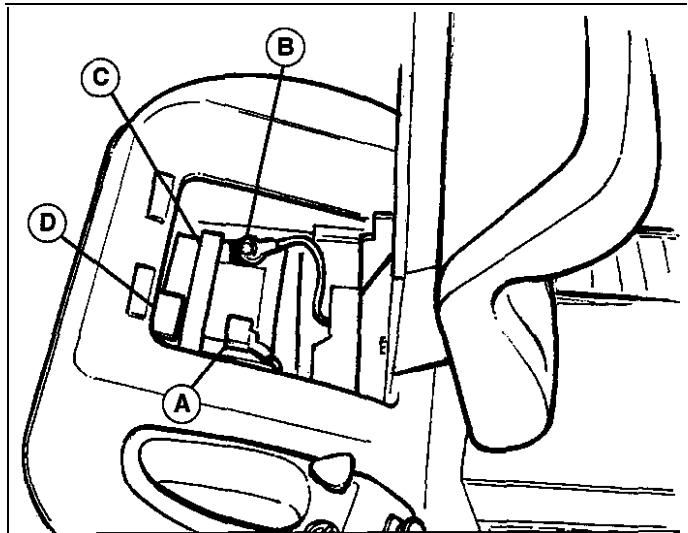

Figure 13. Battery
2. Remove **battery** filler cap (C, figure 13). Fluid must be even with split ring full mark. If not, add distilled water.
1. Disconnect the cables from the battery, negative cable first (B, figure 13).
2. Remove the **battery** clamp (D, figure 13), then remove the battey.